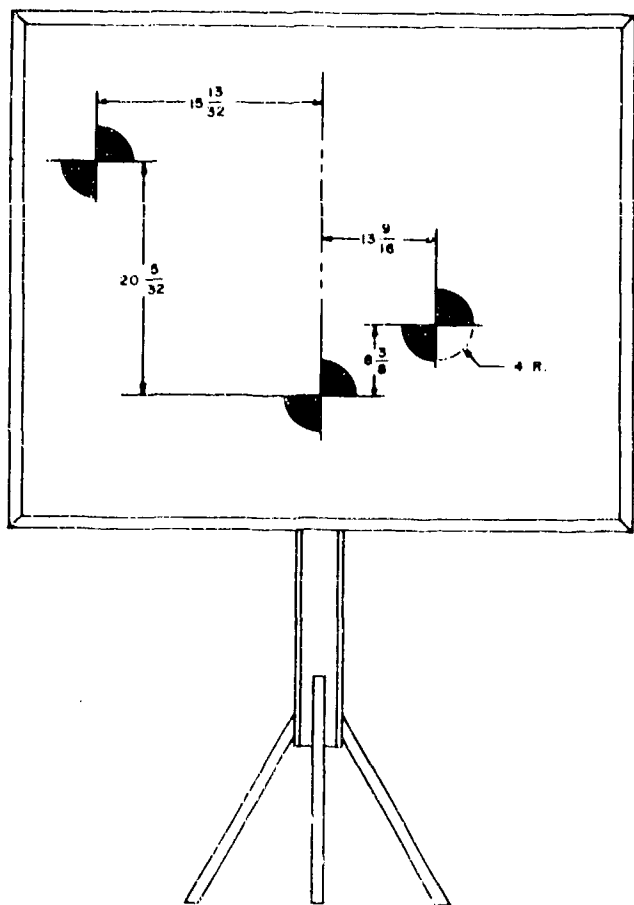

Figure 3-22. Testing target with stand.
g. *Adjust testing target to tube.* Place the testing target (fig 3-22) 50 to 100 meters in front of the howitzer tube, and position the testing target so that the base diagram is alined with the boresights without moving the tube. The testing target must be placed on a stand and held firmly in place during boresighting.
(1) While looking through the panoramic telescope, adjust the vertical line of the reticle pattern to the aiming diagram of the testing target by turning the tangent screws on the mount. The weapon is boresighted for deflection (azimuth) when the vertical line of the panoramic telescope coincides with the vertical center of the aiming diagram.
(2) While looking through the panoramic telescope, adjust the horizontal line of the reticle pattern to the aiming diagram of the testing target by turning the elevation micrometer knob so that the horizontal crosshair of the reticle of the panoramic telescope is alined on the horizontal line of the aiming diagram of the testing target. The elevation micrometer scale should read 0. If it does not, loosen the three screws on the knob, hold the knob and slip the scale to 0, and tighten the three screws. The panoramic telescope is boresighted for elevation.